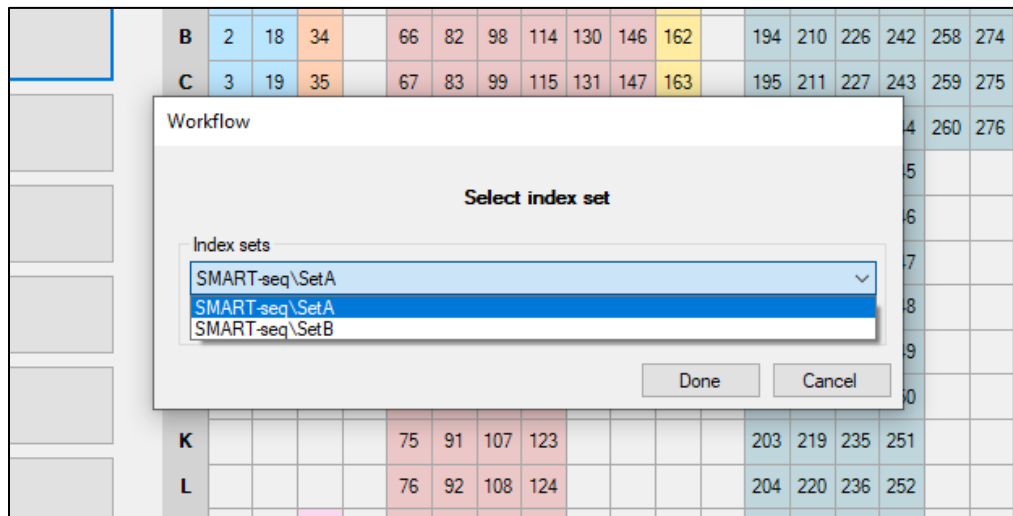

Figure 8. *Select index set workflow prompt.* The display defaults to using Set A. Ensure the correct indexing primer set is selected before clicking [Done].
A “Select index set” *Workflow* window will display asking you to indicate which SMART-Seq Pro Indexing Primer Plate you are using (Figure 8). Choose the one you are using for this run from the drop-down menu and then click [Done].
- b. For Step 6, the *New stack info* dialog window will display (Figure 12, below). The “Barcodes” field will be grayed out because the barcode file is pre-configured during the Dispense (Section V.B, Figure 8).